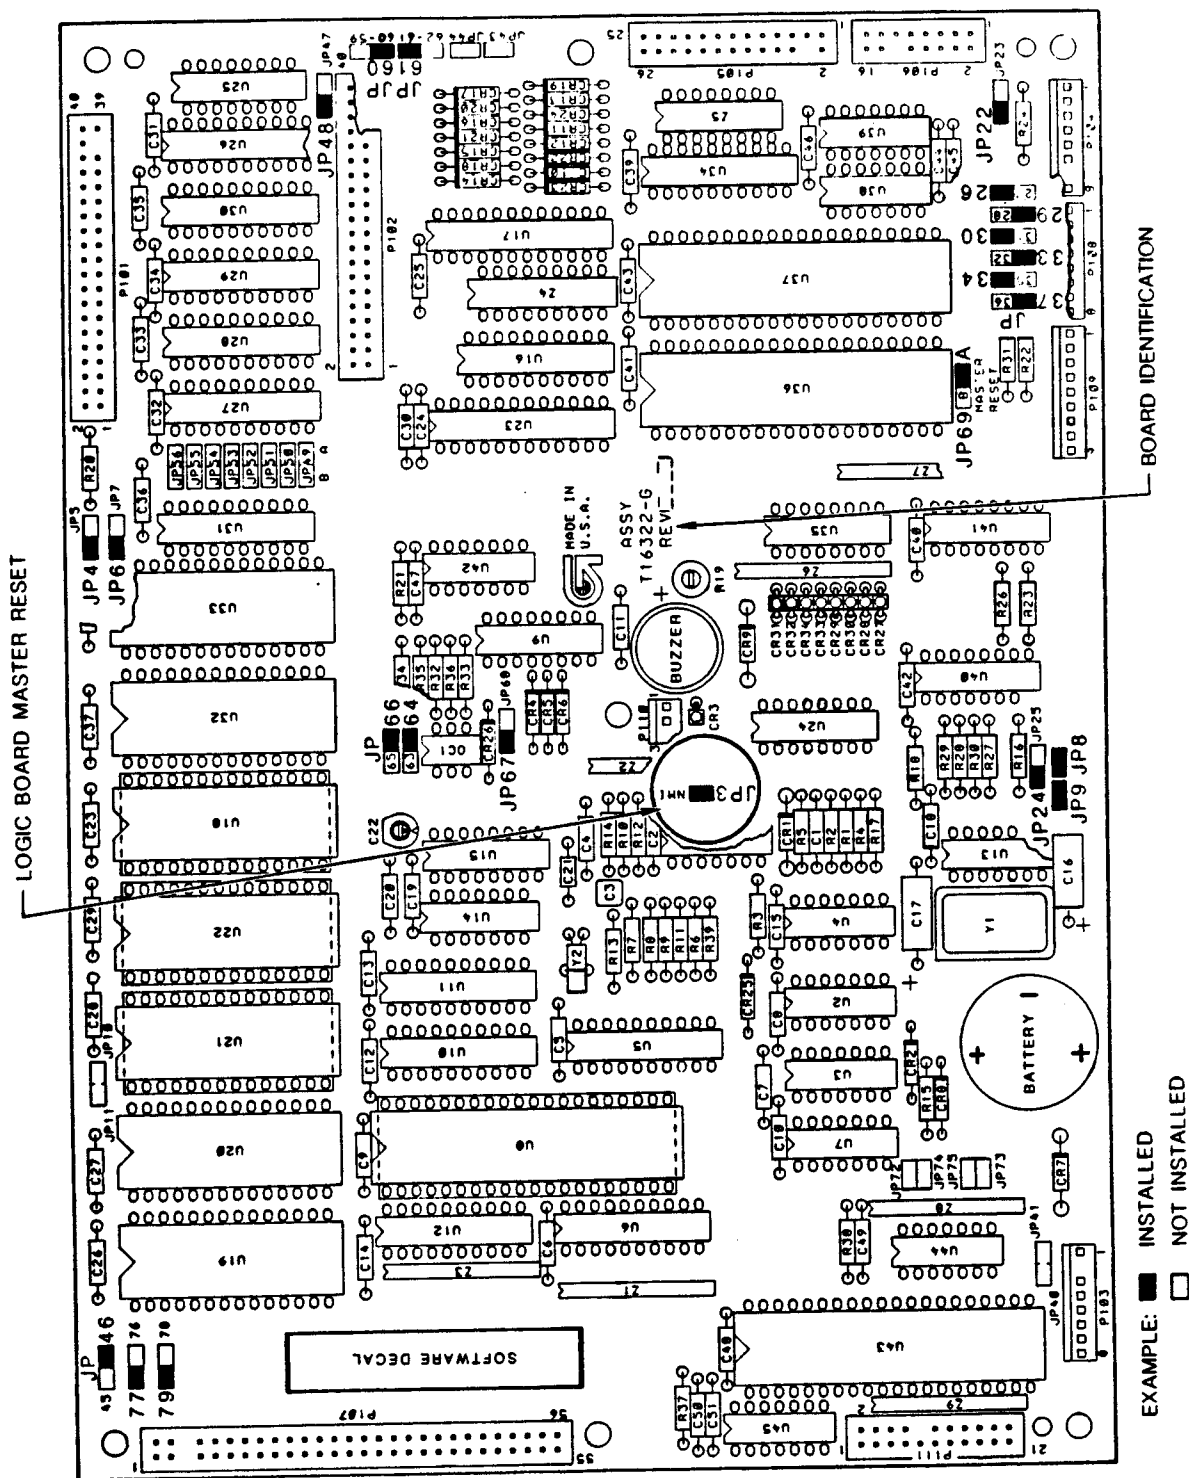

FIGURE 4: JUMPER SETTINGS FOR PWB ASSEMBLY T16322
- If Processor PWB Assembly is T16322, compare all Jumper Settings with the lists on Pages 9 and 10 and Figure 4 on Page 8. Reset (per instructions below) any jumpers that are not in agreement.
- PWB ASSEMBLY T16322 JUMPER SETTINGS CONFIGURED FOR DOMESTIC T-12C - SOFTWARE VERSION 21.0. SEE FIGURE 4, PAGE 8.